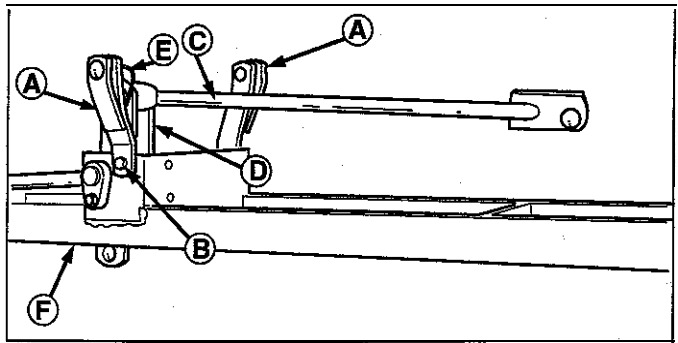

Figure 7. Assemble Hitch
1. Attach the hanger brackets (A, Figure 7) to the hitch assembly (F) using 3/8-16 x 1" capscrews and nylock nuts (B). Do not torque the nuts. The hanger brackets (A) should be able to pivot freely.
2. Attach the lift rod (C, Figure 7) to the hitch lift arm (D) using one 1/2" x 2" flat head clevis pin and safety clip (E).